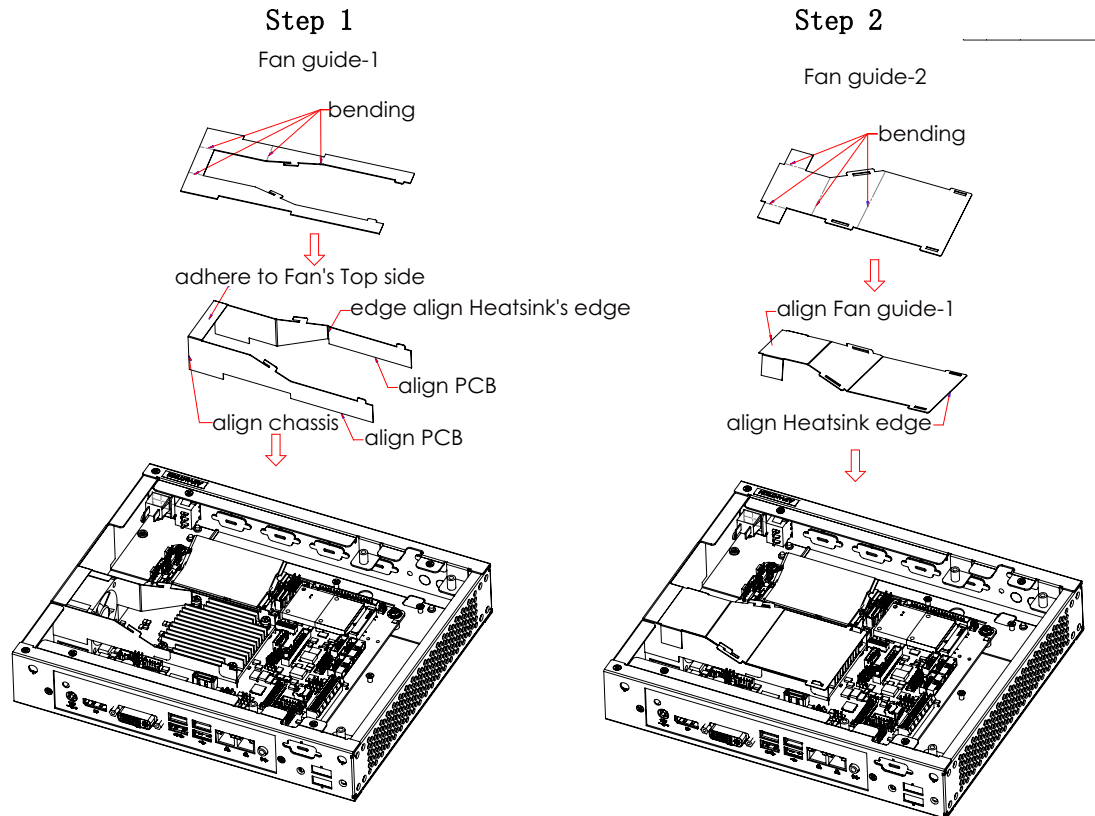

Figure 2.5 Assemble the Air Duct/ 组装导风罩 / 組裝導風罩
- Figure 2.5 Assemble the Air Duct/ 組裝導風罩 / 組裝導風罩 8